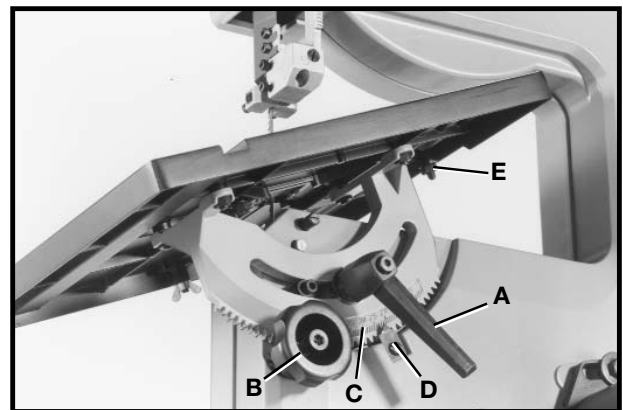
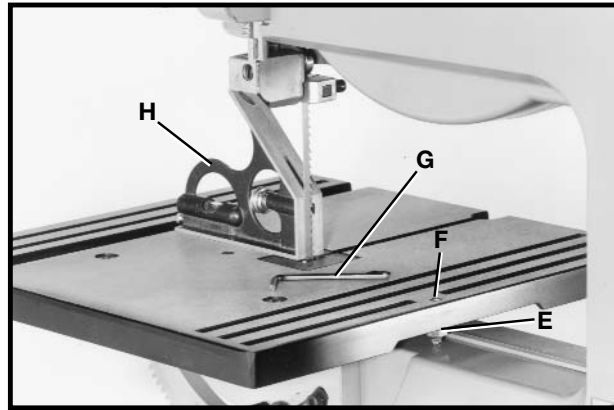
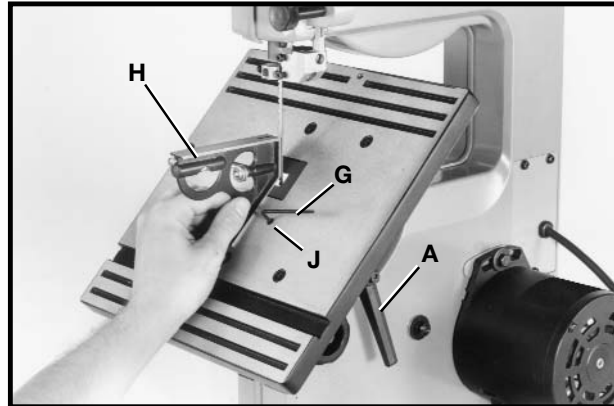

Fig. 26
Fig. 27
Fig. 28
The table can be tilted 45 degrees to the right. To tilt the table, loosen lock handle (A) Fig. 26, and turn knob (B) clockwise until desired angle is established. Then tighten lock handle (A). **NOTE:** The table lock handle (A) can be repositioned by pulling out on the handle and repositioning it on the nut located underneath the hub of the handle. A scale (C) and pointer (D) are provided to indicate the degree of tilt.
1. Tilt the table to the 90 degree position as shown in Fig. 27, and tighten lock handle (A) Fig. 28. Place a square (H) Fig. 27, on the table and against the blade and check to see if the blade is 90 degrees to the table surface. If an adjustment is necessary, proceed as follows:
2. Tilt the table slightly as shown in Fig. 26, to expose lock nut (E) Fig. 27. Loosen lock nut and return table to the 90° position. With the lock handle (A) Fig. 28 loose, turn adjusting screw (F) Fig. 27, using the wrench (G) provided until the blade is 90 degrees to the table. Then tighten lock nut (E) Fig. 27, and lock handle (A) Fig. 28.
3. Tilt the table to the 45 degree position as shown in Fig. 28. Place a square (H) on the table and against the blade and check to see if the blade is 45 degrees to the table surface. If an adjustment is necessary, proceed as follows:
4. Loosen lock nut on adjustment screw (J) Fig. 28, located on the underside of the table. With lock handle (A) Fig. 28 loose, turn adjustment screw (J) using wrench (G) provided until the blade is 45 degrees to the table. Then tighten lock handle (A), and lock nut on adjustment screw (J).